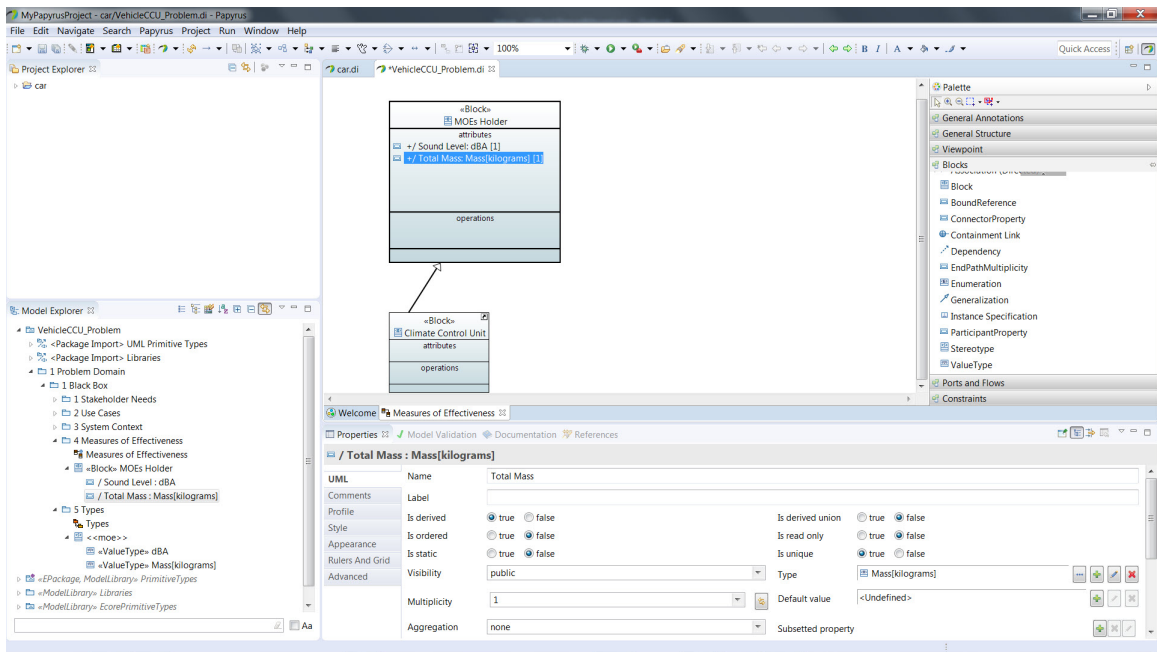

Figure 86: *Total Mass* Attribute Created.
12. Follow that same procedures to create another attribute in the *MOEs Holder* block named *Total Mass*. For its **Type** property select the *Mass* value type that we created earlier in the *5 Types* package. Your diagram should look like (figure 86). We have now finished our Black Box analysis and will proceed to our White Box analysis.